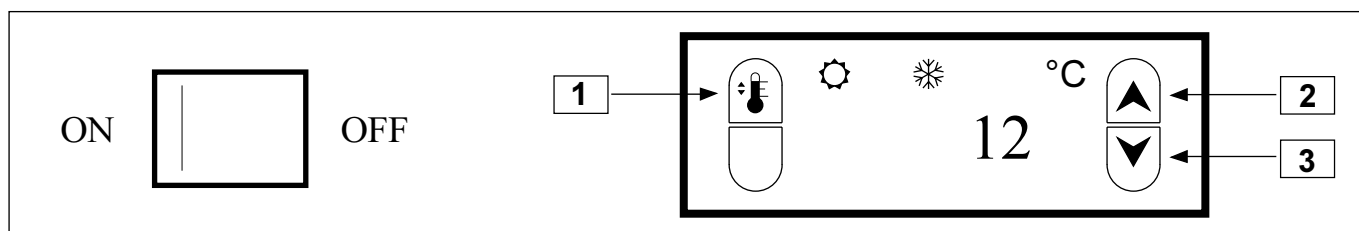

FIG. 3
Plug in the wine cellar and turn it on with the S1 switch (see fig. 3).
(see fig. 3)
- Press button [1] (see fig. 3). Message L1 will appear and the pre-set temperature is then shown shortly afterwards.